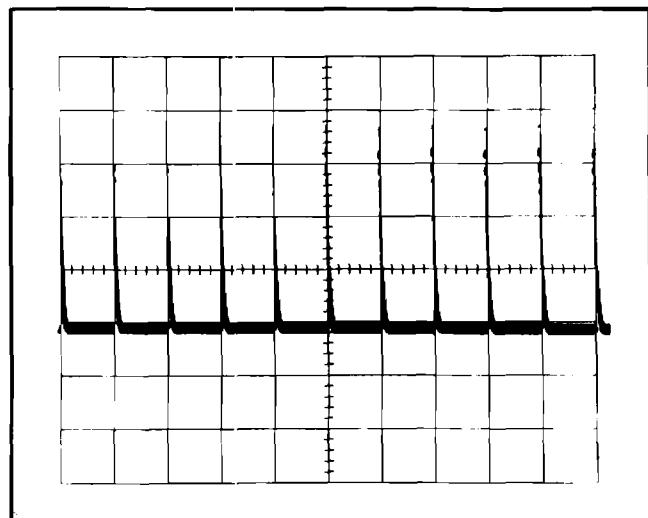

Fig. 5-6. CRT display showing correct 5  $\mu$ s timing.
- CHECK—CRT display for one marker each division between the second and tenth vertical lines. Check that sweep timing is within 0.16 division (2%) over the center eight divisions. See Fig. 5-6.